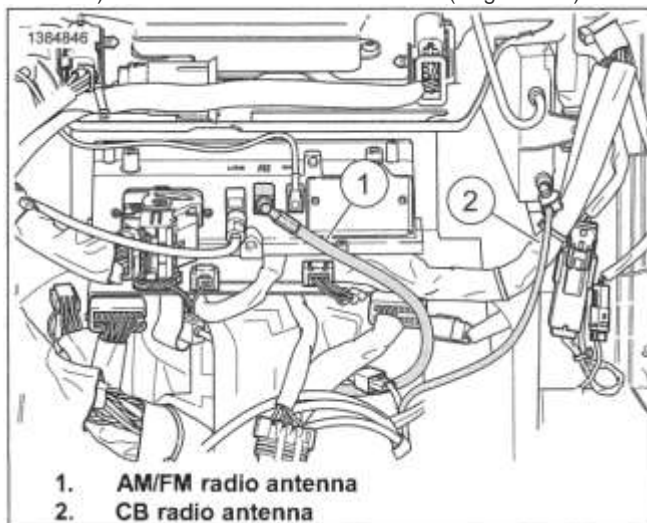

Figure 8-87. Radio Antenna Cable Connectors
4. See Figure 8-87. Disconnect antenna cable (1) from radio. Cut cable where it exits front and rear of the main harness.
1. See Figure 8-87. Connect new radio antenna cable connector to radio.